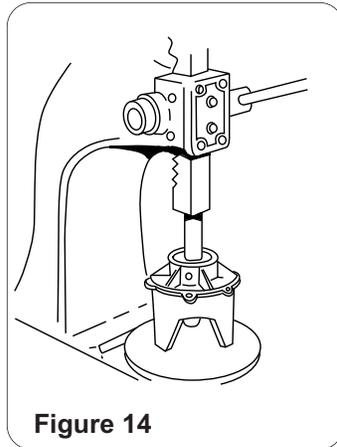

Figure 14
7. To remove the Rotor with Shaft from the End Plate – support the End Plate in an Endplate Support Fixture with the Rotor down. Center the Bearing Disassembly Tool or 3/8" bolt, on Pump Shaft. Apply pressure to press Shaft out of Ball Bearing (See Figure 14).